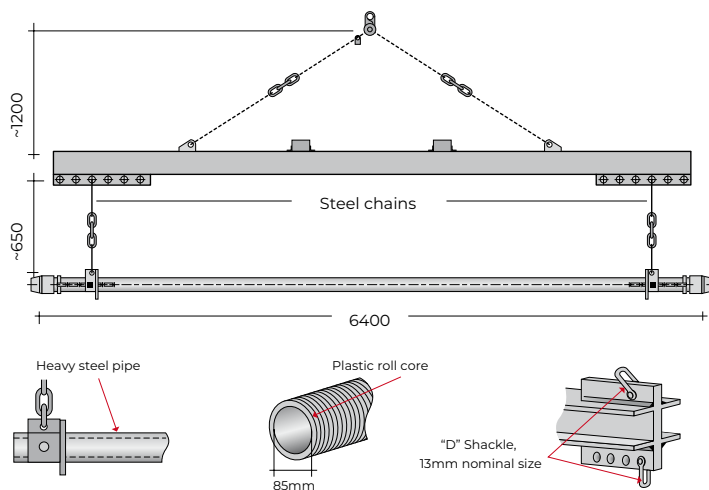

Figure 4. Spreader Bar
- Installation of 6 metre wide rolls over difficult terrain be assisted with a Geofabrics spreader bar (refer to Figure 4 and the safe handling guidelines for details on safe usage).
Performance considerations such as removal of wrinkles and folds or pre-tensioning the geotextile should be addressed as specified. Seams should be exposed with the seamed joint facing upwards, such that the seam can be inspected and repairs easily made should faults be encountered. For placement of larger 4m and 6m rolls, a Geofabrics spreader bar is recommended. (Refer to figure 4 and the Safe Handling Risk Analysis).
Stability of the geotextile on slopes should be assessed by the design engineer. Installation of rolls on slopes with a Geofabrics spreader bar is recommended. (Refer to figure 4 and the Safe Handling Risk Analysis).
Refer to Figure 4 and to the Safe Handling Risk Analysis below for details of geotextile spreader bar safe handling.